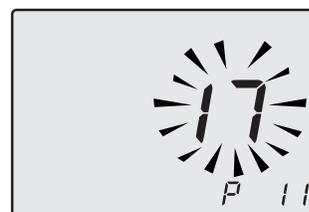

Fig. 7.30
- Scroll the various parameters using keys 17 or 18 until the letters **P11** are displayed on the LCD display, indicating that "parameter 11" (Fig. 7.30) has been activated.